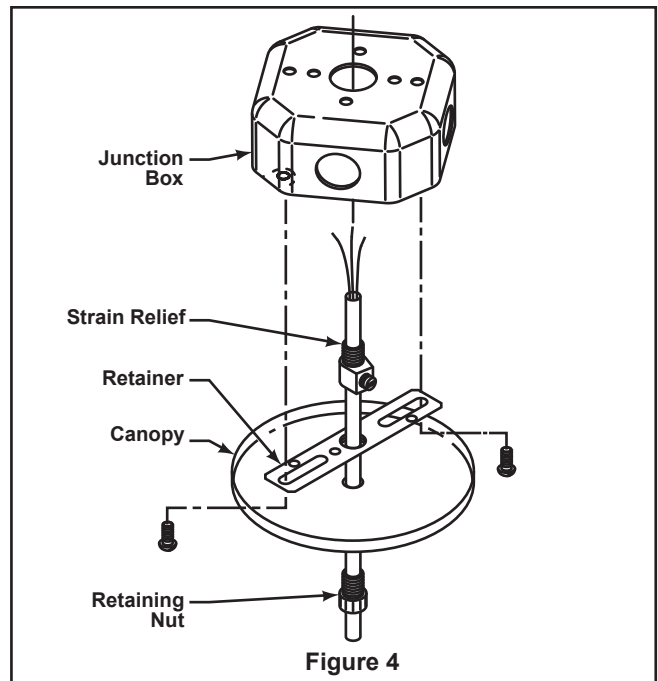

Figure 4
- ☐ 5. Mount retainer to junction box with screws (provided with your junction box). (Figure 4)
- ☐ 4. Operating & Using Hand-held Remote (Figure 4): Install two piece of 3 volt battery (If not using for long periods of time, remove battery to prevent damage to store hand-held remote). the hand-held remote away from excess heat or humidity.